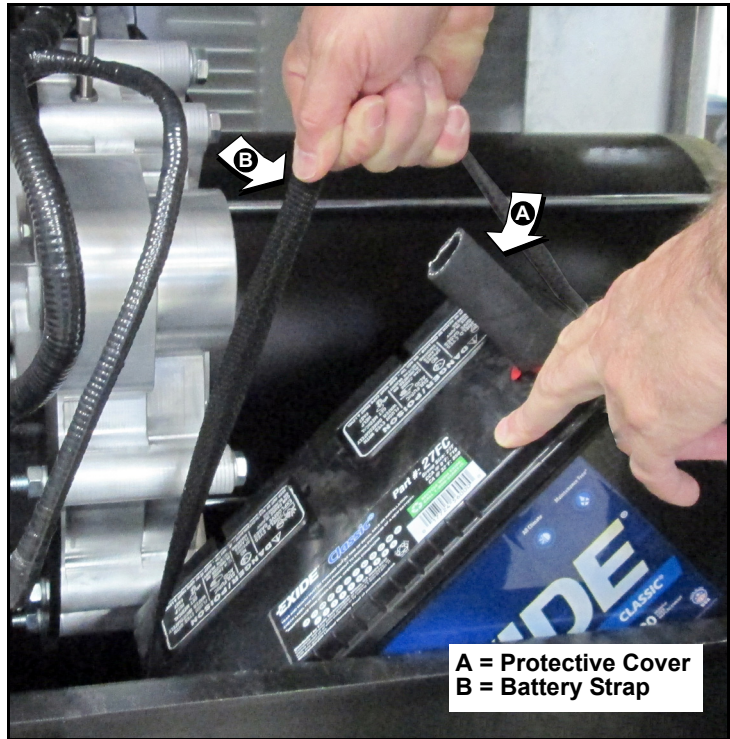

Figure 5-12. Install Battery (2.3L Models)
1. Install rubber protective cover over battery positive (+) terminal. See A of Figure 5-12.
3. When battery tilts sideways, insert into opening. See B of Figure 5-12.